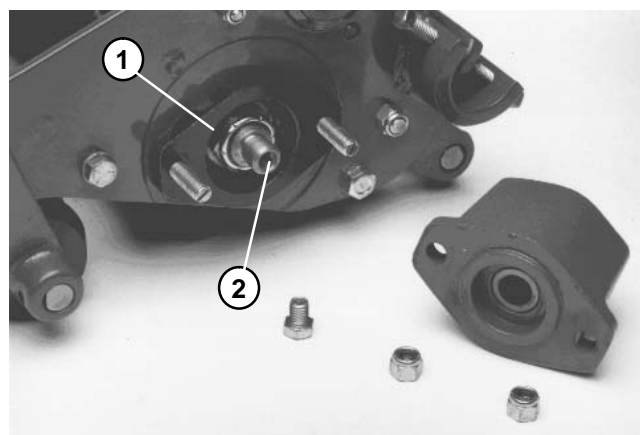

Figure 7
- B. Using a large socket wrench, remove the reel bearing adjustment nut (Fig. 7). Tap on the head of the hex head bolt on the end of the reel shaft, with a small hammer, until end play of the reel can be felt.